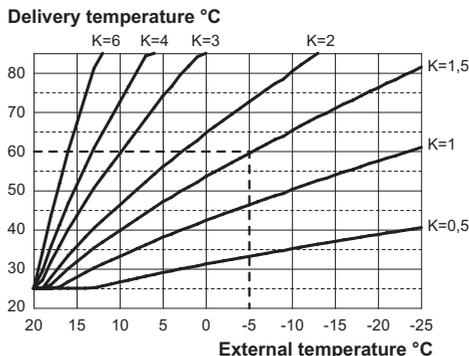

Fig. 8.8
If the boiler is **EQUIPED** with the remote control (optional) refer to Fig. 8.8. In this case K setting must be done from the remote control.
The K coefficients is a parameter that increases or reduces the boiler flow temperature when the outside temperature changes. When installing the external probe it is necessary to set this parameter based on the efficiency of the heating system in order to optimise the flow temperature (Fig. 8.8).
E.g. In order to have a flow temperature at the heating system of 60°C with an external temperature of -5°C, set a K at 1.5 (sectioned line in Fig. 8.8).
- Pressing the 13 or 15 keys, it is possible to change the value of parameter **14** from a minimum of **00** to a maximum of **60** based on the selected curve of the K coefficient in Fig. 8.8 (the value shown on the display, in Fig. 8.14, corresponds to **K = 1.5**).